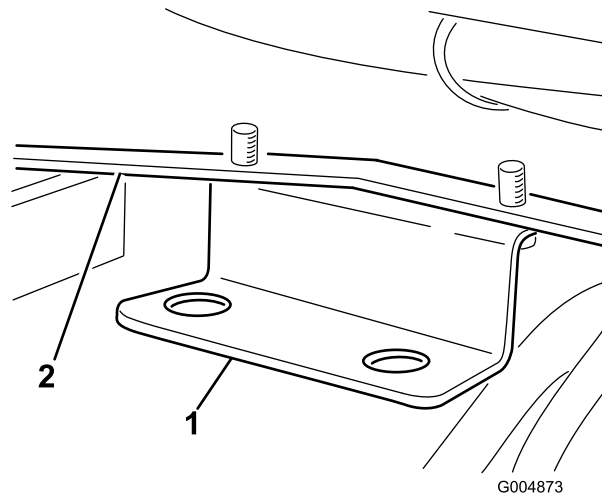

Figure 15
9. Install the bulkhead bracket to the left rear frame mount with 2 self-tapping screws (5/16 inch) (Figure 15).